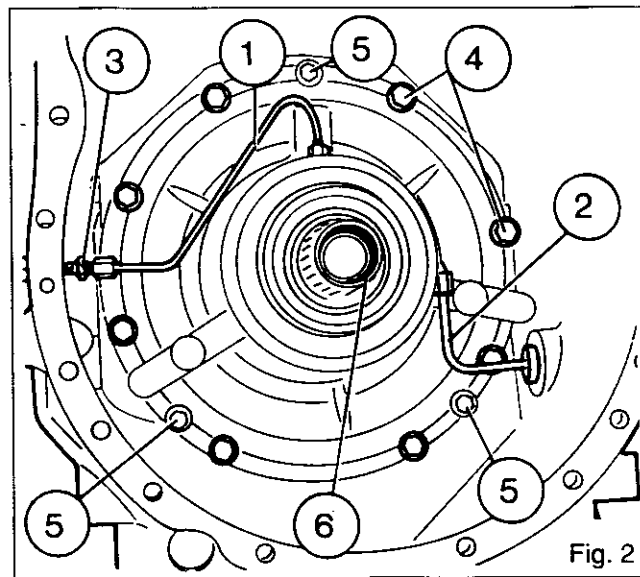

Fig. 2
6. Remove the PTO shaft and take out seal (6) (Fig.2).
7. Remove the bleed pipe (1) and supply pipe (2) and connector (3). Plug the passage openings (Fig.2).
9. Unscrew set-screws (34) and take off the selector dog (33).
10. Unscrew the 8 bolt diam. 10 mm (4) (Fig.2).
**N.B.:** Do not remove the three bolts (5) (Fig.2) (with speedshift).